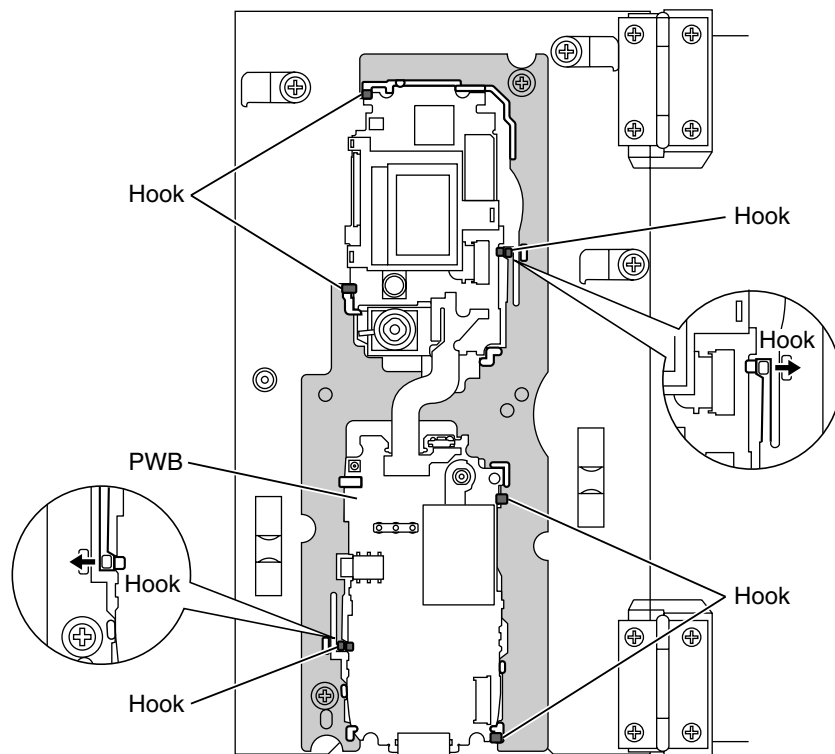

Figure 56 PWB installation
1. Set PWB and make connections as shown in Figures 56 and 57.